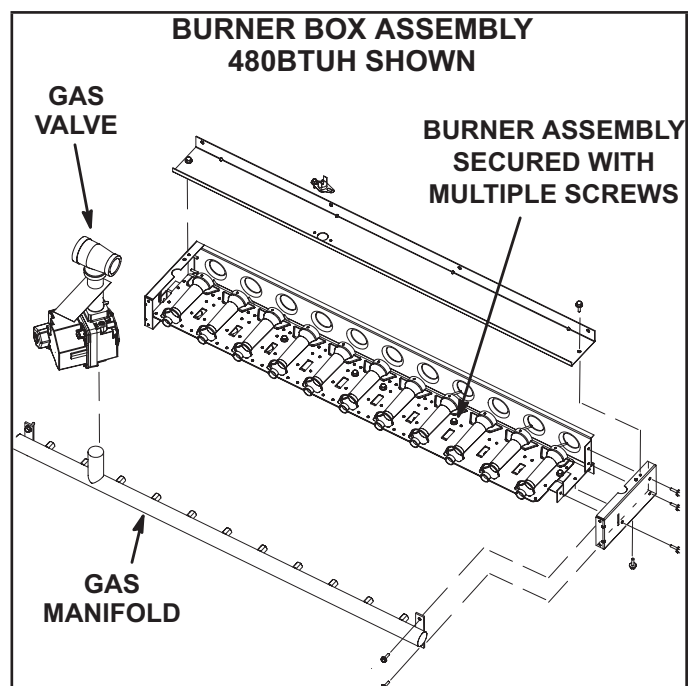

FIGURE 45
- 3 - Remove screws securing burner assembly to burner support and remove assembly. See FIGURE 45. Clean as necessary.